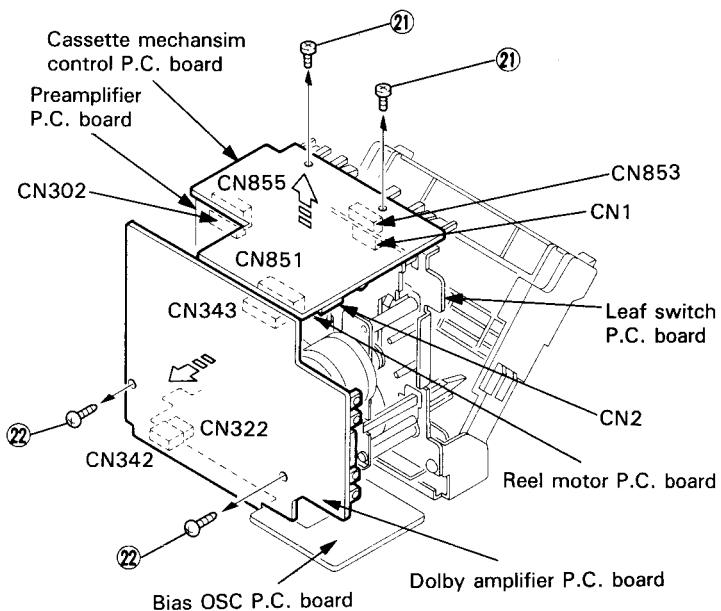

Fig. 7-19
■ Method of removing the cassette mechanism control P.C. board and Dolby amplifier P.C. board (Refer to Fig. 7-19)